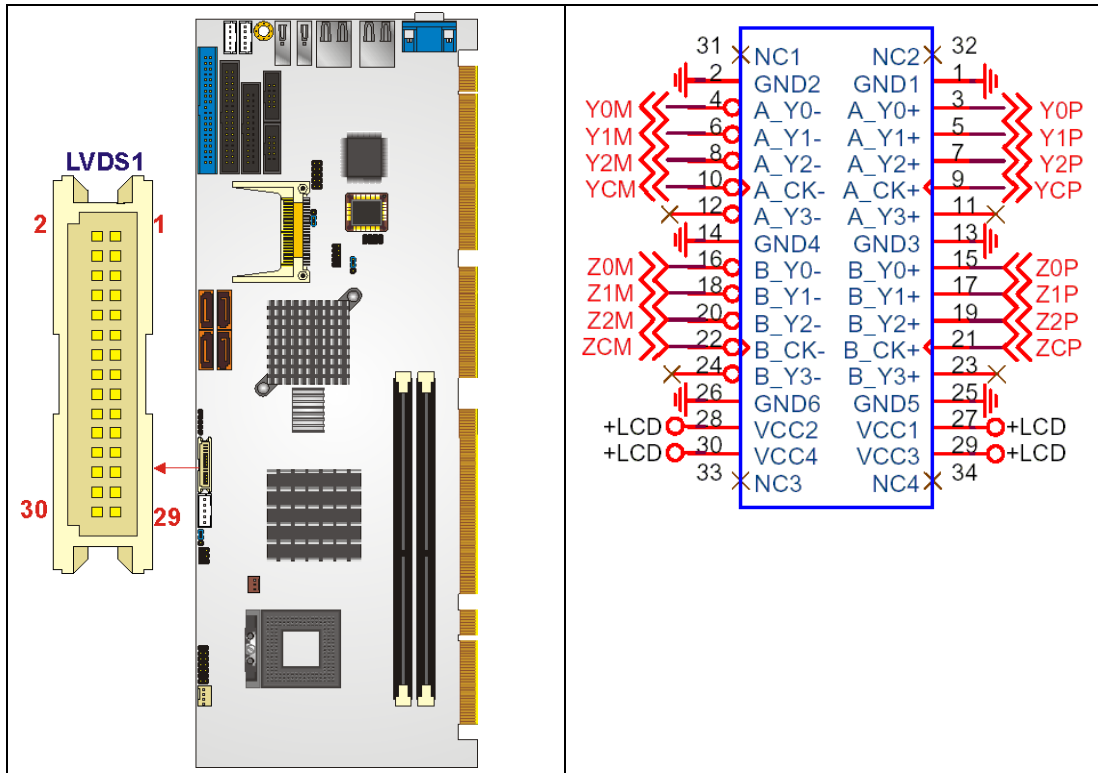

Figure 4-13: LVDS LCD Connector Pinout Locations
- CN Location:** See Figure 4-13